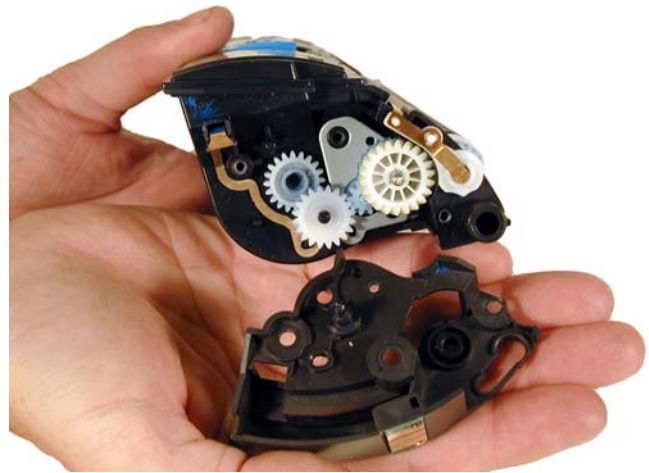

Figure 6
3) Remove the end cap. See **Figure 6**